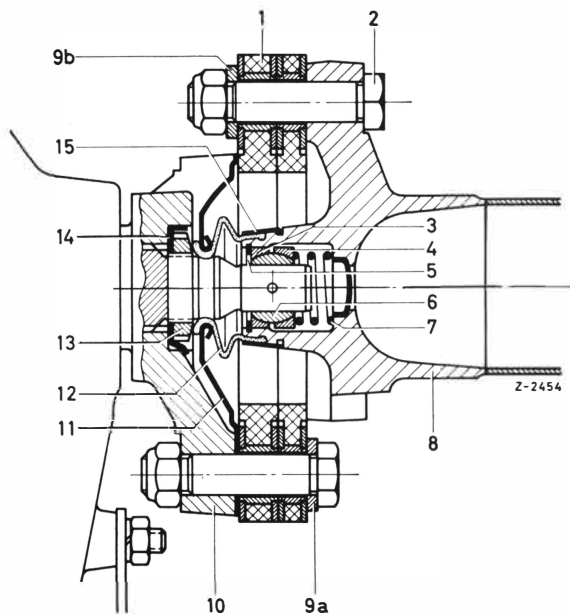

Fig. 00-1/5
14. Unscrew hexagon screw (8) and unscrew support (4) from chassis base panel (Fig. 00-1/3).
15. Release propeller shaft intermediate bearing (see Job No. 41-1 and Fig. 00-1/4).
16. Disconnect propeller shaft at transmission. Remove fitted bolts at transmission flange (10) and push propeller shaft, with six-link shaft plate (1) and retainer (11) (Fig. 00-1/5), backward.